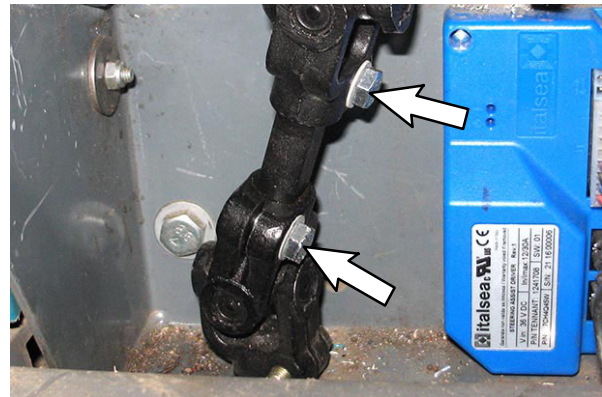

FIG. 14
7. Remove the two M8 hex screws from the lower power steering shaft. Set the M8 hex screws aside. (Fig. 14)